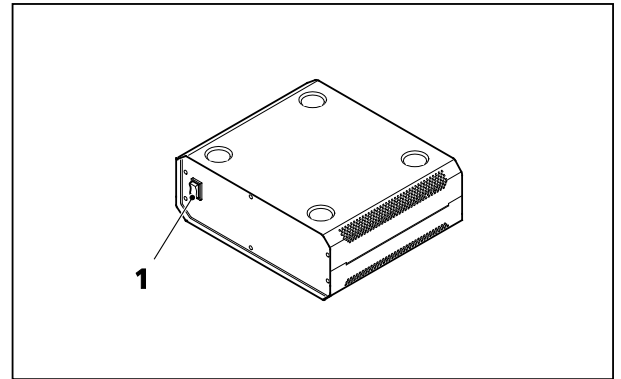

Fig. 47 External power supply unit VP232-2 for Axio Observer 7, 7 materials
- Switch on the external power supply unit VP232-2 using the power switch (Fig. 47/1).